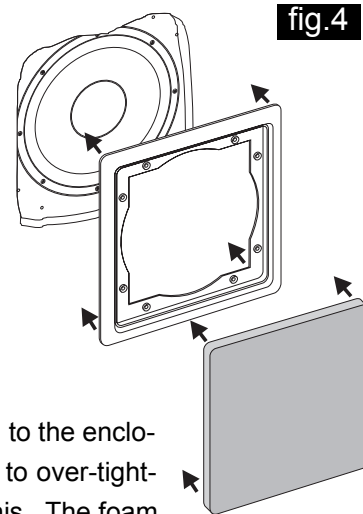

fig.4
8. Attach the metal grille by inserting it into the grooves in the bezel (fig. 4).